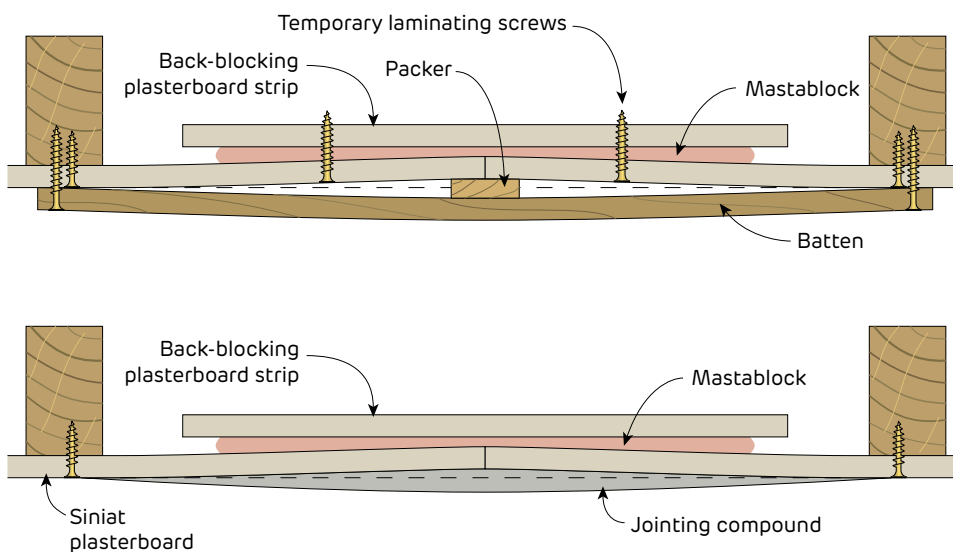

FIGURE 59 Creating a Recess on a Wall Butt Joint using a Temporary Packer
- > Wall butt joints need support for the back-blocking strips as shown in Figure 59.